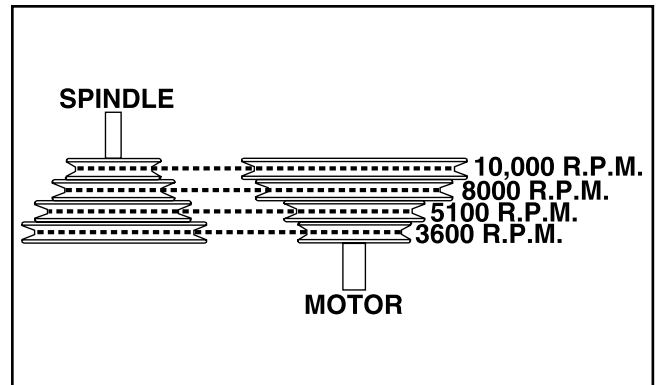

Figure 26. Spindle speed adjustment.
3. Select the desired speed. There are four speeds: 3600 R.P.M., 5100 R.P.M., 8000 R.P.M., 10,000 R.P.M. **Figure 26** shows the belt positions for each available speed.